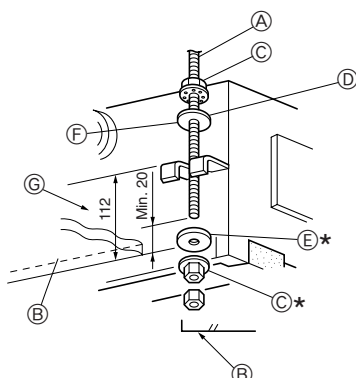
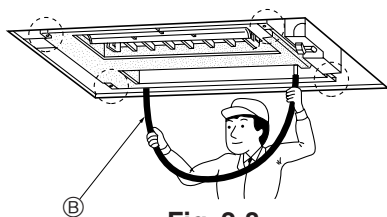

Fig. 2-7
Fig. 2-8
1. Thread washers ① ② (supplied) and their nuts (procured locally) onto the suspension bolt in advance. (Fig. 2-7)
- * Do this in the following order (from the top): nut, insulated washer ②, washer without insulation ①, two nuts.
- * Position insulated washer ② with the insulated surface pointing down, as in the figure.
2. Lift the unit into place, aligned properly with the suspension bolt. Pass the bracket between washers ① and ②, which are already in place, and secure it. Do the same in all four places.
- (A) Suspension bolt (3/8" or M10)
- (B) Ceiling surface
- (C) Nut (3/8" or M10)
- (D) Washer ② (with insulation)
- (E) Washer ①
- (F) (Install with insulation facing down)
- (G) Measurement to upper face of bracket
4. Check that the four corners are all level, using a spirit level or clear plastic tubing with water in it. (Fig. 2-8)